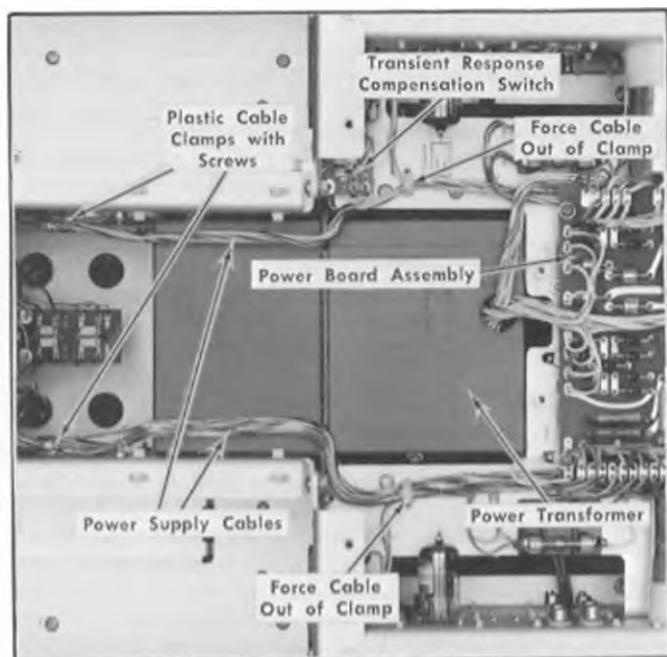

Fig. 4-6. Power transformer replacement (photo taken with hinged power chassis swung open).
3. To clear the way for sliding out the transformer (see Step 8) loosen the power supply cables by forcing them out of the two plastic clamps and removing the screws in two other plastic clamps (see Fig. 4-6).
5. Remove the two screws holding the right plug-in transient response compensation switch (Fig. 4-6). The switch can now be dropped slightly to clear the power transformer mounting brackets.